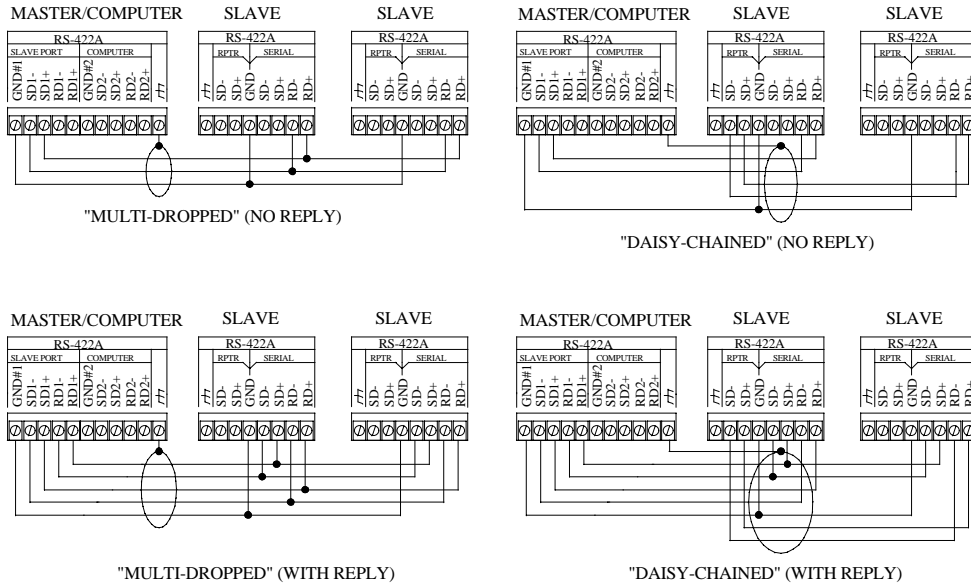

Figure 7. RS-422 Terminations
2. Connect the RS-422A Serial/Printer Port to programmed master(s) and other slaves(s) in the desired configuration shown in the first two examples (with no reply) of figure 7.